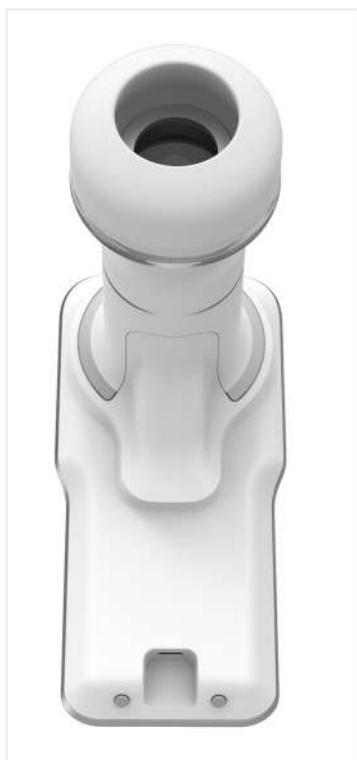

Figure 108: **Eyer**® connected to charger
- **Smartphone charge:** Plug a charger connected to the power grid, figure 108, in the **Eyer**® USB-C port, figure 109.